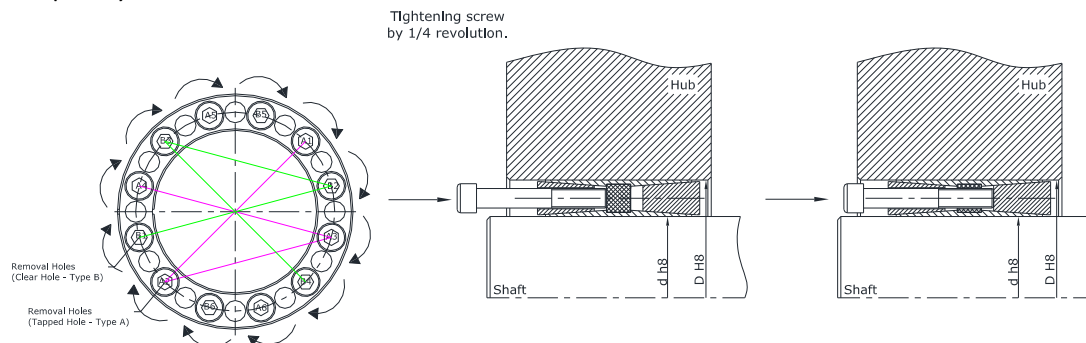

Fig. 3
- N7040, N7041 & N7042 are not self releasing. So Remove and transfer some screws into removal hole (Type – A) which have been provided on front nut (As mention in Fig. 3). For first pass 1/4 revolution tightening of screws into removal holes (Type – A) which lead to jacking of front nut. Continue this procedure for several passes for removal of front nut completely.
- Remove and transfer some screws into removal hole (Type – B) which have been provided on rear nut (As mention in Fig. 3). For first pass 1/4 revolution tightening of screws into removal holes (Type – B) which lead to jacking of rear nut. Continue this procedure for several passes for removal of rear nut completely.